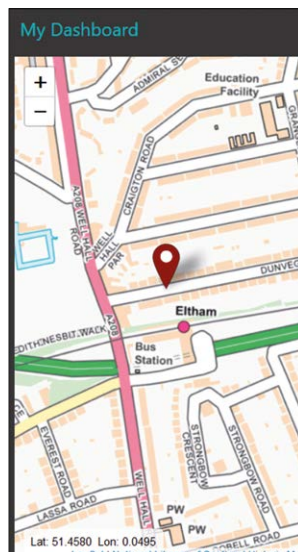

Figure 11.24 Your position shown on the map
- You should see your position marked on the map as shown in figure 11.24. Notice that here the map is zoomed to show the street level.